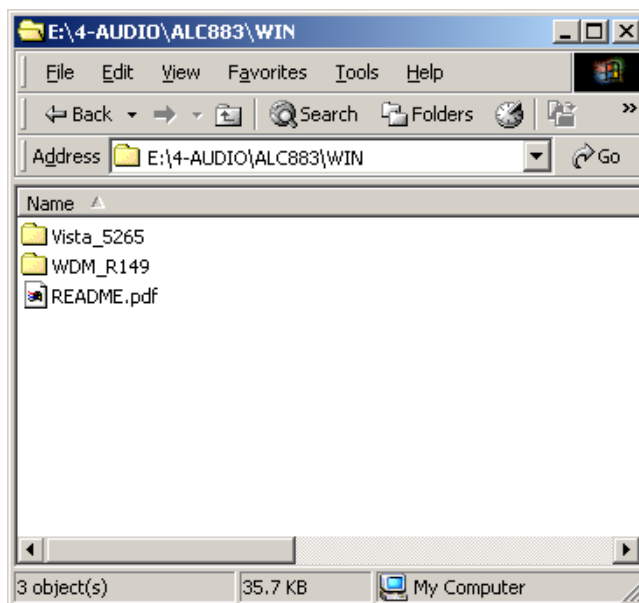

Figure 7-28: Select the OS Version
Step 5: Double-click the appropriate operating system version folder (Figure 7-28).